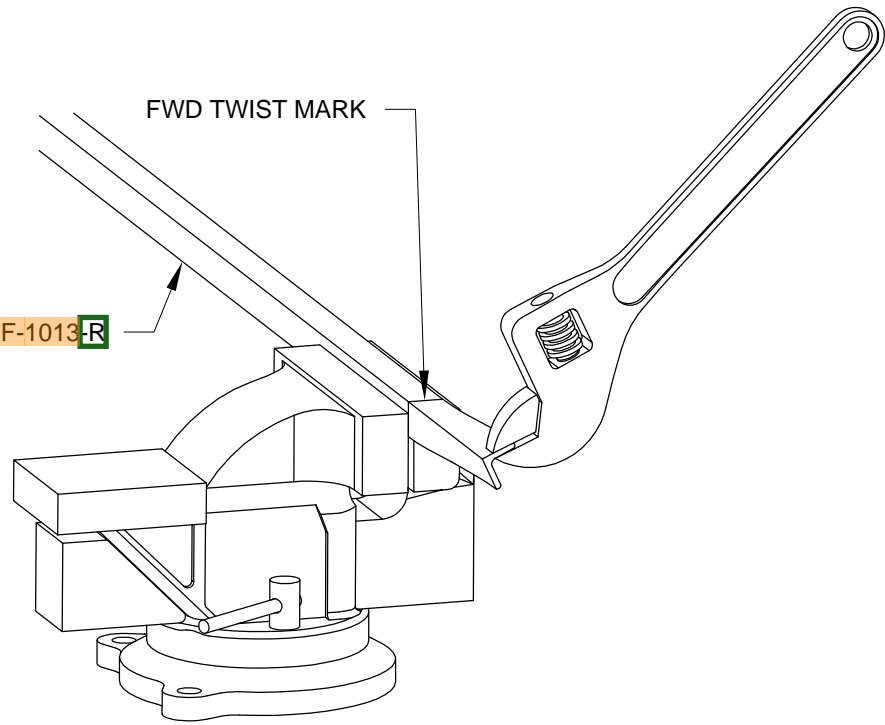

FIGURE 2: TWISTING THE FWD FUSE LONGERONS (FORWARD END OF F-1013-R SHOWN)
Step 3: Clamp the F-1013-R Fwd Fuse Longeron in a padded vise at the "forward twist mark". Twist the fwd fuse longeron with a crescent wrench as shown in Figure 2 to obtain the dimension shown in Figure 3. Clamp the fwd fuse longeron at the "aft twist mark" . Repeat the process using the twist direction shown in Figure 1 to obtain the dimension shown in Figure 3.